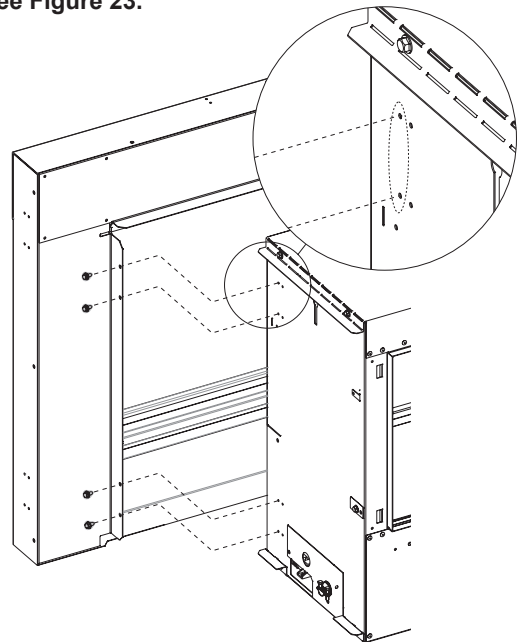

Figure 23
- 3e. Secure the outer glass and frame to the side of the fireplace. See **Figure 23**.